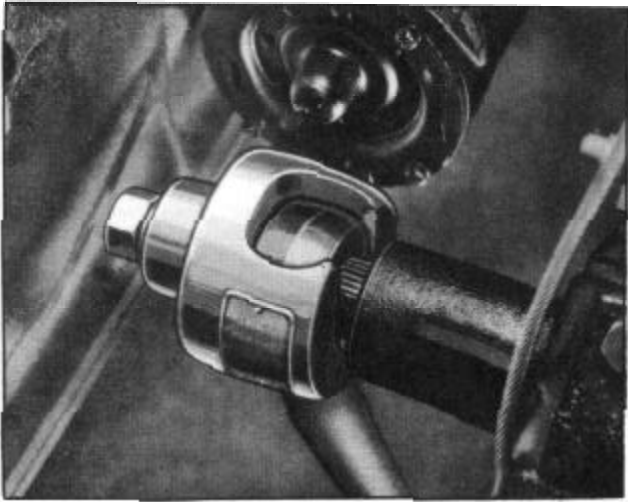

Figure 5--Pitman Arm Puller Tool J 1374
8. Remove pitman arm with puller 3-1374, Fig. 5. Do not drive or pry off as damage will result.